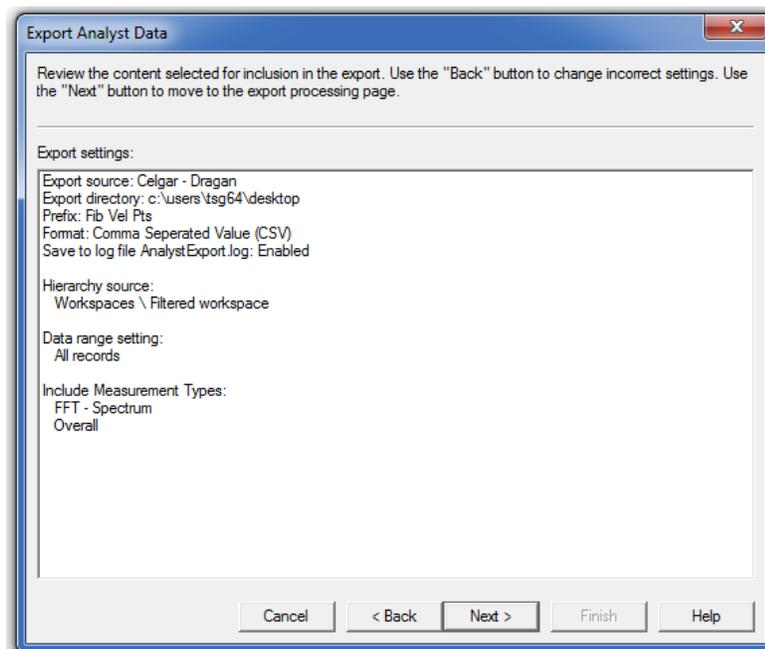

Figure 11. Review the export
11. Review the export settings, then click **Next >**. [Figure 11]